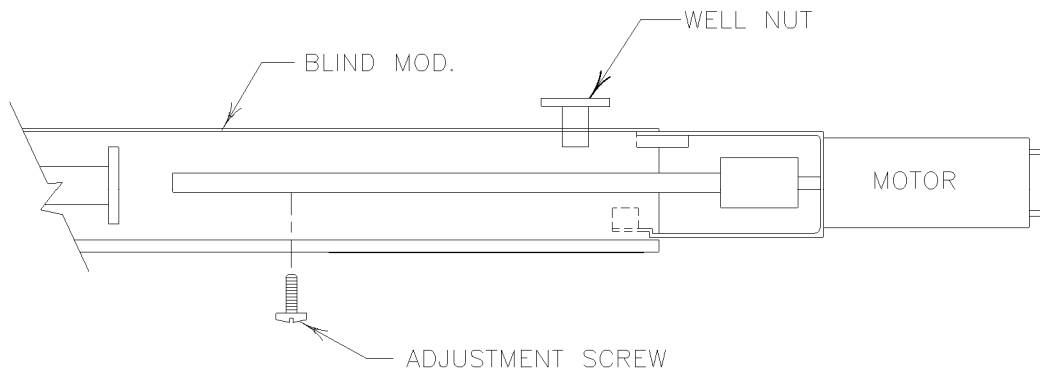

FIGURE 11/ GRAPHIC 25-23-03-991-011
- B. To remove the motor, unscrew and remove adjustment screw and well nut (if necessary) located at right hand side of blind. (See FIGURE 11/ GRAPHIC 25-23-03-991-011)